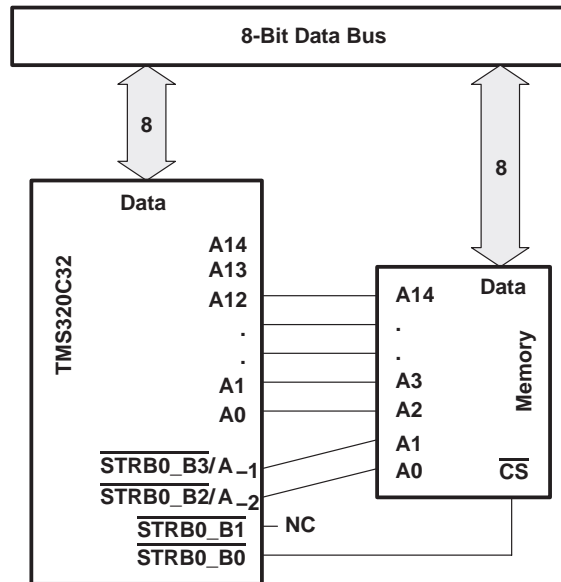

Figure 2. 'C32 With 8-Bit-Wide External Memory
- For 8-bit-wide physical memory, the $\overline{\text{STRBx_B2/A_2}}$ and $\overline{\text{STRBx_B3/A_1}}$ pins function as address pins (least significant address bits) and the $\overline{\text{STRBx_B0}}$ pin functions as a byte-enable (chip-select) pin. $\overline{\text{STRBx_B1}}$ is unused. See Figure 2.